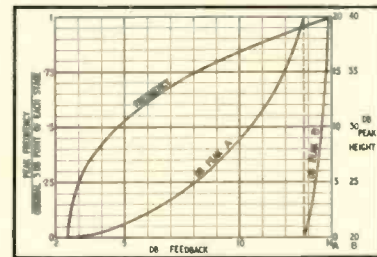

Fig. 7. Effect of negative feedback on peak frequency and height, using a feedback loop with four identical stages.
To find the height of the peak, still using x as independent variable, values of F from (41) are substituted into (40). The results are plotted in Fig. 7, using F as the common variable for convenience.